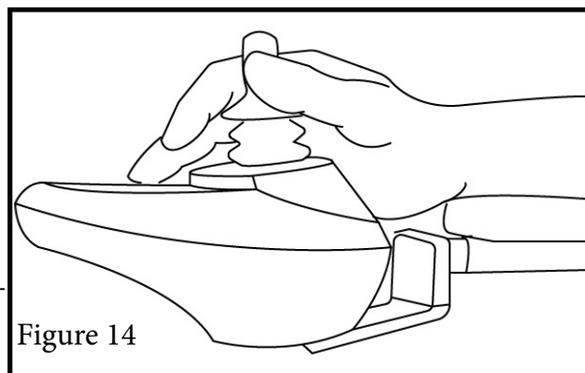

Figure 14
11. Operate the power wheelchair's movement via the joystick. See figure 14.